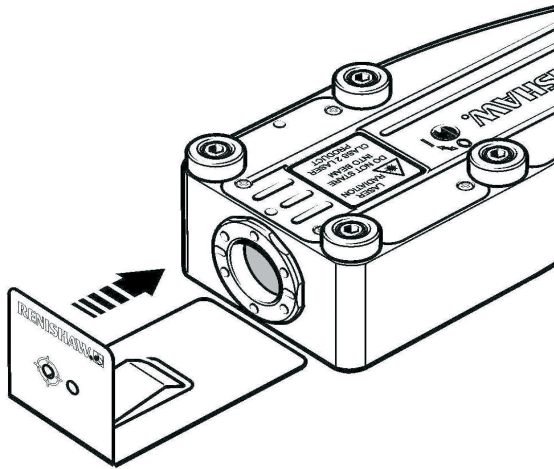

Figure 5: Renishaw alignment target
- Move the mirror to the furthest separation and insert a metal Renishaw alignment target under the RLD10 (Figure 5 overleaf)